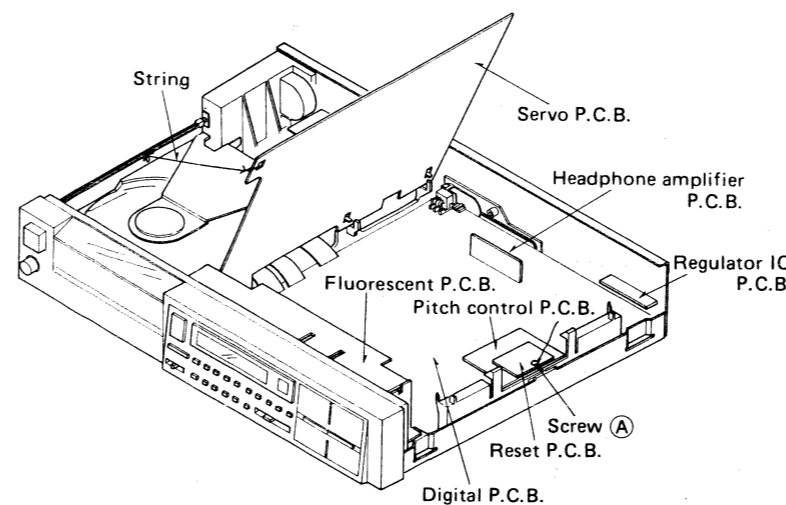

Fig. 27
3. When checking the soldered parts on the servo P.C.B., raise the P.C.B. as in Fig. 27. (Tie the power switch rod to the servo P.C.B. with a string.)
2. Remove the servo P.C.B. to shift it as in Fig. 27.
3. Check each part. To check soldered parts, remove screw (A) and turn over the P.C.B.
3. Remove screw (A) and microcomputer reset circuit and pitch control P.C.B.
4. Again tighten screw (A) to fit the microcomputer reset P.C.B.
2. Remove the servo P.C.B. to shift it as in Fig. 27, and check each part.